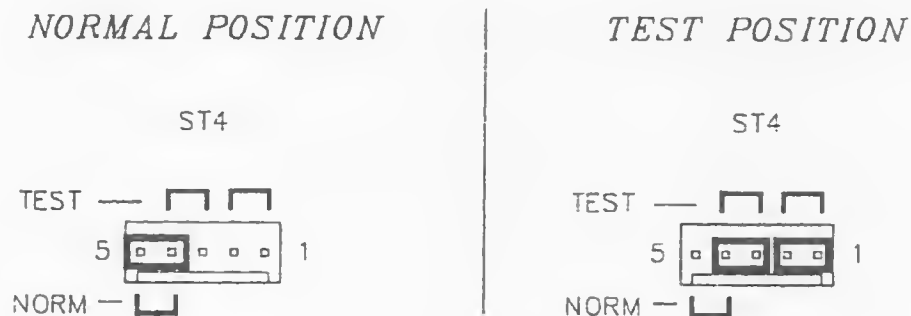

figure 1
- 3.10 Remove Converter Board to D.S.P Board ribbon cable (CB3). Reconfigure ST4 links on Converter Board to 'Test' position (see figure 1). If a spare link is not available use link at ST8 on Micro Board. If the signal now appears on the outputs the fault lies on the D.S.P Board, otherwise the fault is on the Converter Board.
- 4.02 Remove Convertor Board to D.S.P Board ribbon cable (CB3). Reconfigure ST4 links on Convertor Board to 'Test' position (see figure 1). If a spare link is not available use link at ST8 on Micro Board. If the signal is now OK the fault lies on the D.S.P Board.